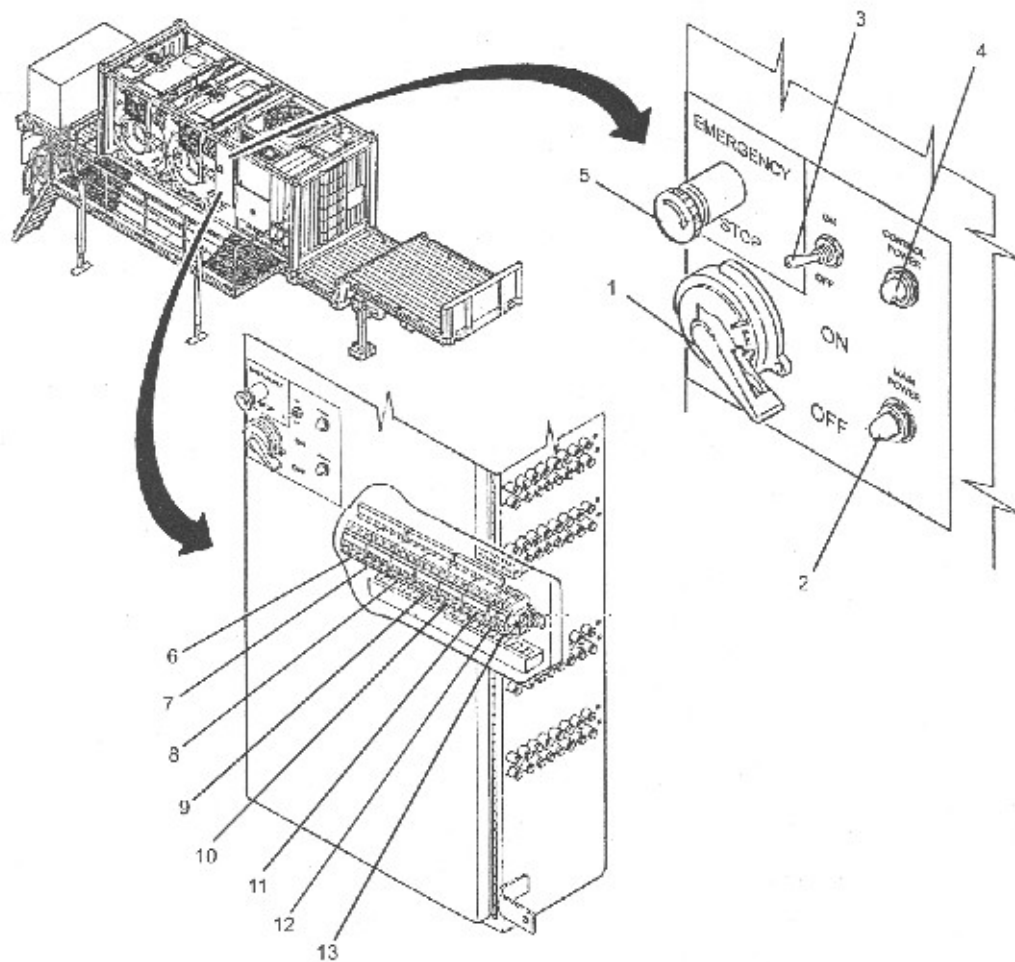

Figure 3-32
- a. **MAIN CONTROL ENCLOSURE CONTROLS AND INDICATORS.** The below diagram shows the location of the controls and indicators found on the main control enclosure. The below Table describes the use of these controls and indicators. To access the controls located inside the main control enclosure, loosen the eleven latches with a flat tip screwdriver and open door. (See Figure 3-32)